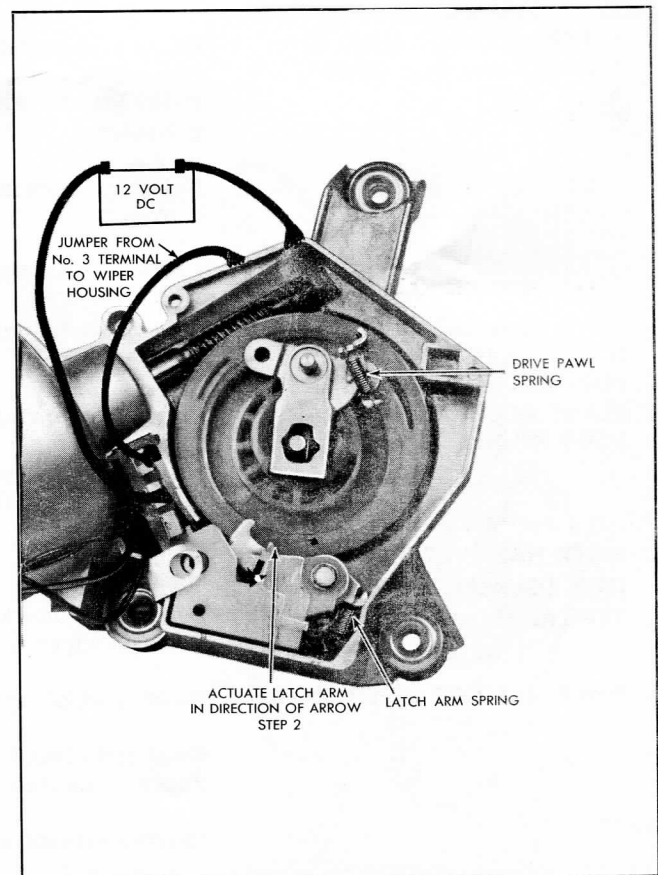

Fig. 12-39 Test Light Connections—Pontiac and Optional Tempest
Park or Shut Off - Reconnect jumper to terminal No. 3 but disconnect it from No. 1 terminal. (Wiper gear mechanism should stop in position shown in Fig. 12-39 or 12-40.)
2. Connect 12 volt power source to wiper - hot side to center terminal, ground side to gear housing (Fig. 12-39). Do not connect jumper to terminal No. 1 and 3.
3. To determine if wiper circuit to relay switch is o.k., connect test light to relay switch terminal as shown in Fig. 12-39 step 3.
4. To determine if relay coil is open connect test lamp to wiper terminal No. 1, Fig. 12-39 step 4. If lamp doesn't light, coil is open or solder connection to No. 1 terminal is defective.
5. Test relay switch as follows: If gear mechanism is in full park position (Fig. 12-39) use small screw driver in switch slot and push latch arm down toward relay coil (Fig. 12-39 step 5). Next, remove small amount of insulation from black lead with pink tracer and touch test lamp to exposed wire.